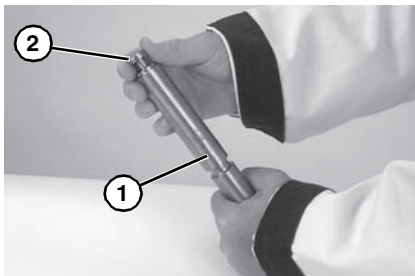

Figure 38
2. Inspect spindle (**Figure 38, item 1**). Replace if worn.
3. Slide bearing (**Figure 38, item 2**) onto spindle.